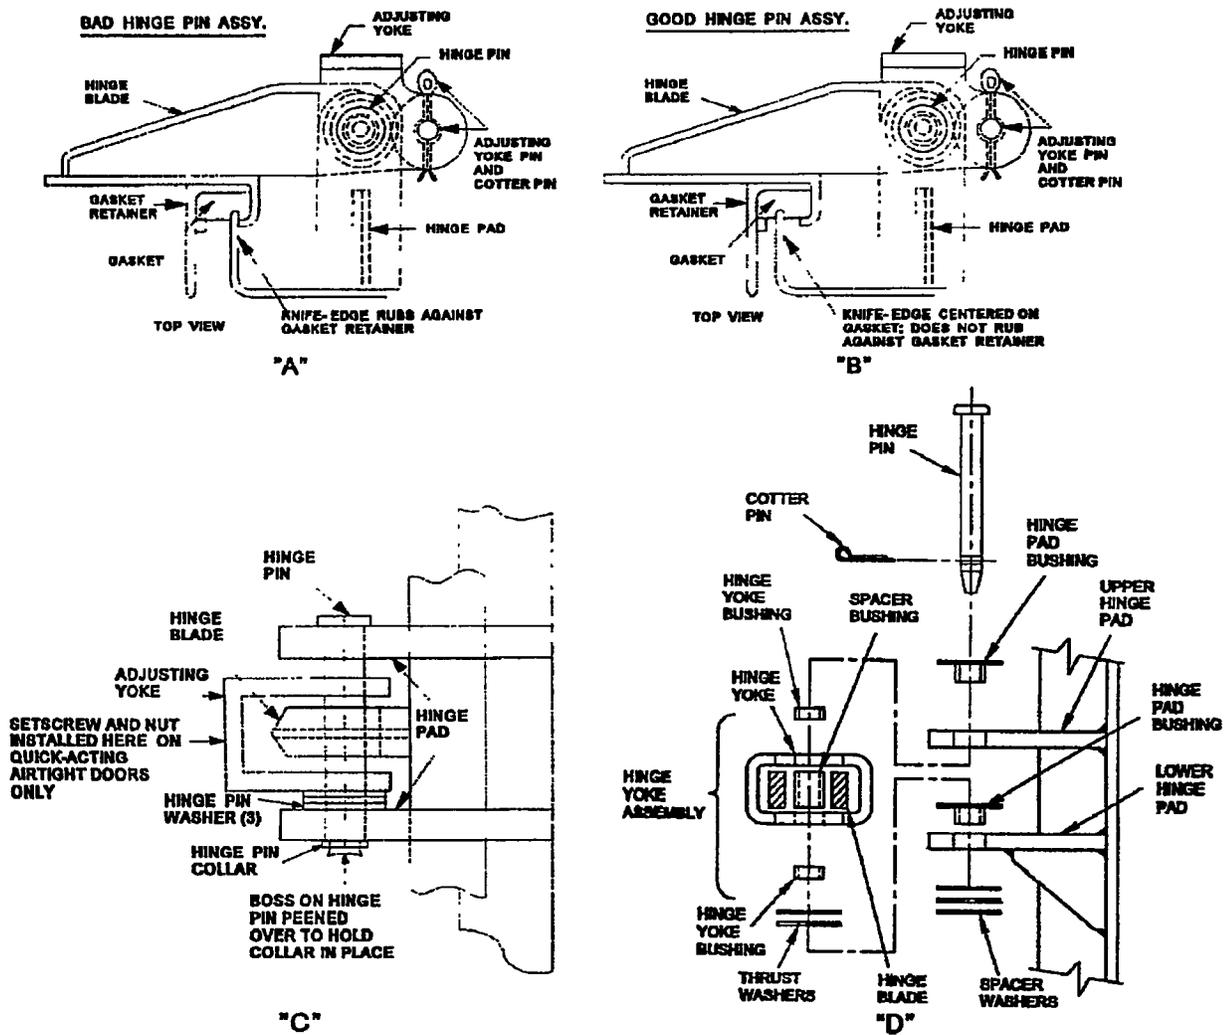

Figure 600-2.27. Hinge Pin Assemblies
- d. Visually inspect the hinge sleeves and hinge pins (on doors without Machinery Alteration (MACHALT) 167-31006 Engineering Change Proposal (ECP) 518 installed) for wear. Visually inspect the hinge pad bushings, hinge yoke bushings, spacer bushing, and hinge pin (on doors with MACHALT 167-31006 (ECP-518) installed) for wear. With the door opened, grasp the door from the hand lever side and push it toward the hinged side. The door should not give more than approximately 3/16 inch. If it does, either the hinge pins and/or washers are worn, or the holes for the hinge pins have become enlarged. Do not confuse hinge pin wear with normal play in the hinge blades. Another indication of hinge pin wear is if the metal channel surrounding the gasket on the door side is rubbing against the knife-edge, or if the door panel rubs one or more side dogs when opening or closing. (See figure 600-2.27, "A"). A good hinge and alignment are illustrated in figure 600-2.27, "B". Replace the hinge pin washers and/or pins (on doors without MACHALT 167-31006 (ECP-518) or MACHALT 167-31011 (ECP-538) installed), or replace the hinge pad bushings, hinge yoke assembly, thrust washers, yoke pin spacer, and hinge pin (on doors with MACHALT 167-3 1006 (ECP-518) or MACHALT 167-31011 (ECP-538) installed), if any of the following conditions exist:
4. The hinge pin washers (on doors without MACHALT 167-31006 (ECP-518) or MACHALT 167-31011 (ECP-538) installed) are worn thin to approximately 1/32 inch. New washers are 1/16 inch in thickness. See figure 600-2.27, "C". The thrust washers or the flange on the hinge pad bushings (on doors without Figure 600-2.27. Hinge Pin Assemblies MACHALT 167-31006 (ECP-518) or MACHALT 167-31011 (ECP-538) installed) are worn thin to approximately 1/32 inch. New thrust washers and the flange on new hinge pad bushings are 1/16 inch in thickness. See figure 600-2.27, "D".